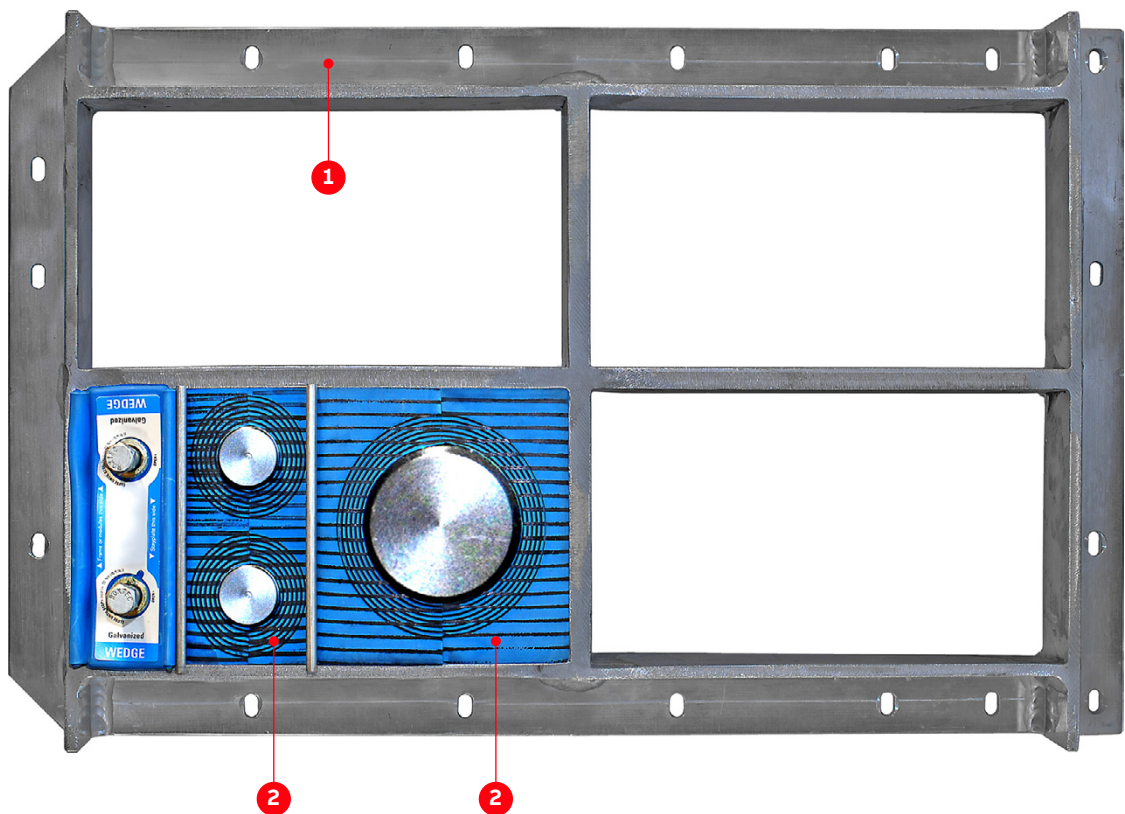

Figure 7-4: Type 1 sealing modules example
- **Included in delivery:** cable entry frame (1 in Fig. 7-4)
- **Not included in delivery:** sealing modules (2 in Fig. 7-4), accessories and tools